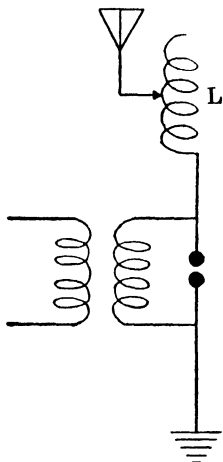

FIG. 37.
**Coupling of Circuits.**—There are two general methods by which the antenna circuit may be set into oscillation. Either the spark gap of the transformer or induction coil may be placed directly in the antenna circuit as shown in Fig. 37, or the spark gap may form a part of a closed oscilla-